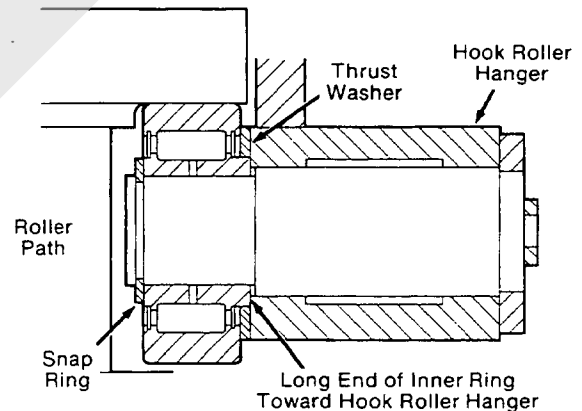

Figure 2 Hook Roller With Snap Ring (SC200 and 4100W)
1. If the trust washers have grease grooves, the grooves must be toward the hook rollers (see Figures 2 and 3).
4. Models SC200 and 4100W — **Bearing-type hook rollers retained on the shafts with a snap ring** (see Figure 2) must have the long end of the inner rings toward the hook roller hanger.